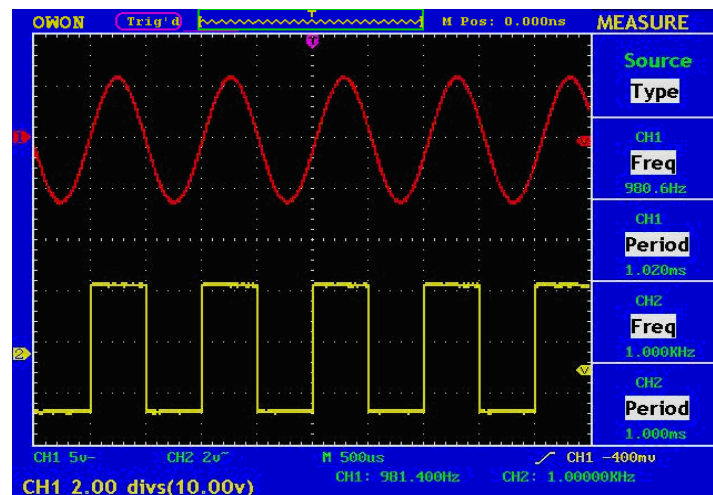

Fig. 5-13 Information about Vertical Position
3. When the vertical position of the channel wave form is adjusted, the screen shows the information concerning the vertical position at the lower left corner (see Fig.5-13).